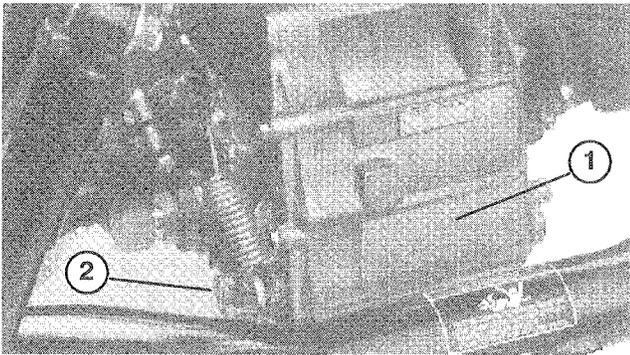

Figure 50
CHANGING TRANSAXLE / HYDRAULIC FLUID (Fig. 50)
2. Remove drain plug (Fig. 50) from side of reservoir and let hydraulic fluid flow into drain pan.